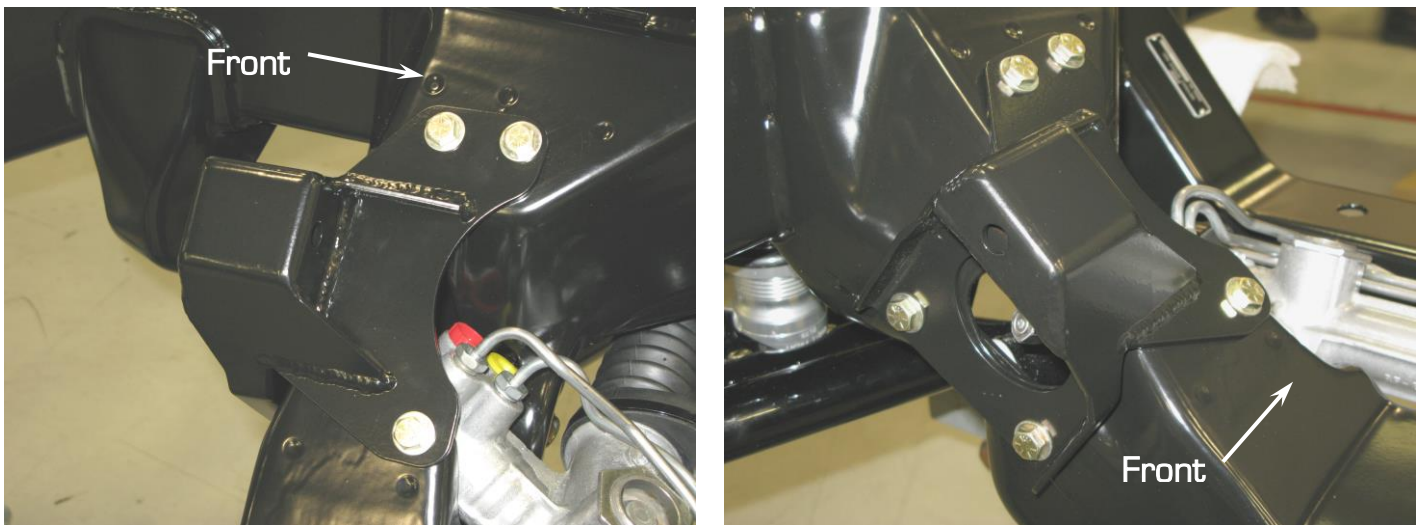

Figure 1 - Engine frame stand installed on the Detroit Speed Hydroformed Subframe, Driver Side
4. Attach the frame stands to the subframe using five 3/8"-16 x 1.0" L hex head bolts (#13) and five 3/8" flat washers (#14) per side. There is a LH and RH stand. Follow the pictures in Figure 1 for proper orientation. Use High Strength Loctite (p/n: 262) on these bolts when installing and torque the bolts to 35 ft. /lbs.